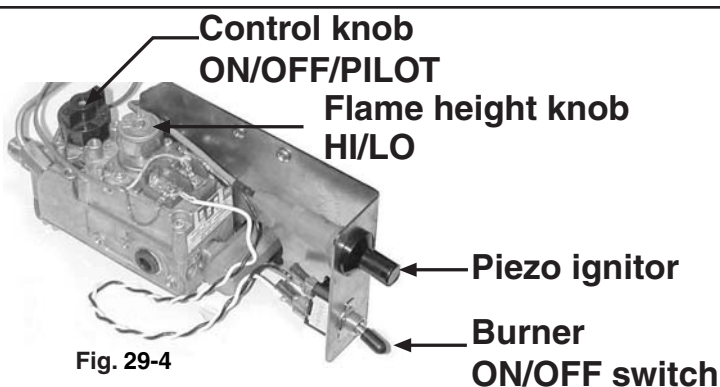

Fig. 29-4
1. Locate your Series 12 control valve (p. 15). Turn the control knob (Fig. 29-4) from the **OFF** position (see Fig. 29-1) slightly counterclockwise ↶ to **PILOT** (see Fig. 29-2). Press the control knob in and hold for 10 seconds (only pilot gas will flow). Continue pressing control knob and push the piezo ignitor (see Fig. 29-4). You should hear a click, and pilot should light. Repeat this step until the pilot lights. Continue to hold the control knob in the **PILOT** position for 30 seconds after the pilot has been lit.
4. To ignite main burner, move burner **ON/OFF** toggle switch (see Fig. 29-4) to **ON** (up). Main burner will ignite.
The flame height and heat output of your log set can be adjusted by turning the flame height knob (see Figs. 29-4, 29-5) to **HI** or **LO** as you wish to reach your desired heat level/flame height. When you are finished enjoying your log set, simply move the burner toggle switch to **OFF** (down). In this position, the pilot will remain lit, and the log set can be relit by moving the switch to **ON**.